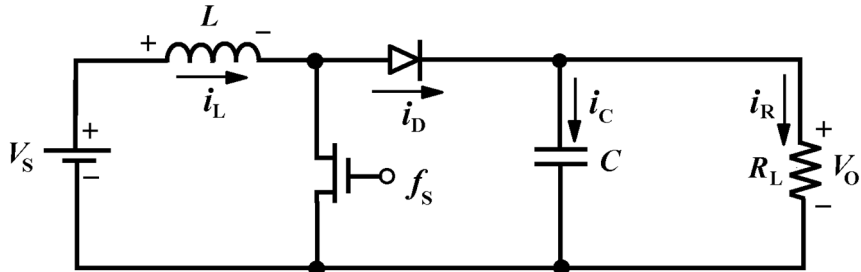

Figure 2
- Design a DC-DC Boost Converter as shown in Fig. 2 with specifications:  $V_s = 24$  V,  $V_o = 36$  V, load power = 50 W and the output voltage ripple  $< 0.5\%$ . The switching frequency  $f_s = 50$  kHz. To ensure continuous inductor current, the inductor value must be chosen such that the current ripple of the inductor is limited to 40% of the average inductor current. Determine the values of inductor and capacitor and their respective voltage and current ratings. Assume all components are ideal.